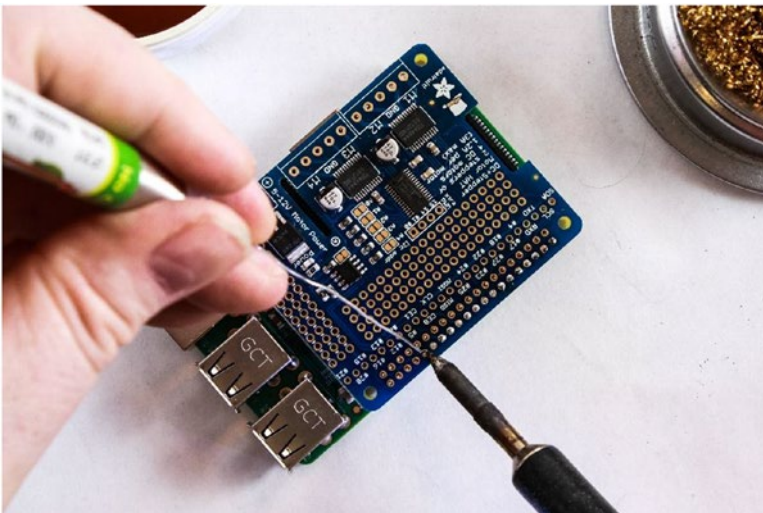

Figure 6-9. *Solder the first row of pins*
5. Solder the rest of the first row (see Figure 6-9).